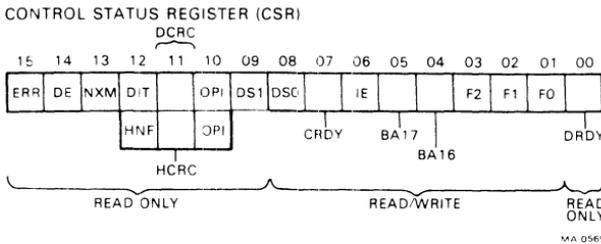

Figure 5 Control/Status Register
**Control/Status Register (CSR)** – The control/status register (Figure 5) is a 16-bit, word-addressable register with a standard address of 174400. Bits 1 through 9 can be read or written; the other bits can only be read. The bit functions are described in Table 3.